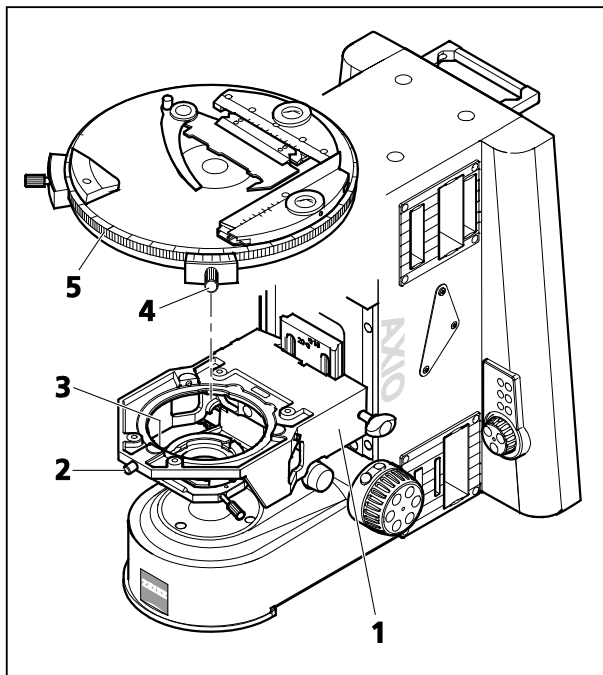

Fig. 67 Attaching the rotary stage Pol
- Loosen screw cap (Fig. 67/2) from the spring housing (roughly three rotations).
- Press rotary stage Pol (Fig. 67/5) to the front against spring-loaded pin (Fig. 67/3), lift it off the stage carrier (Fig. 67/1) from the back and remove it upwards.
- Retighten screw cap (Fig. 67/2).
- Where necessary, loosen screw cap (Fig. 67/2) of the spring housing with about three rotations.
- Place rotary stage Pol (Fig. 67/5) with the groove of the dovetail (stage bottom) on spring-loaded pin (Fig. 67/3).
- Attach the rotary stage with the clamping screw (Fig. 67/4) pointing to the front right.
- Press the rotary stage Pol to the front against the spring-loaded pin and lower it towards the back into the stage carrier (Fig. 67/1), then release it.